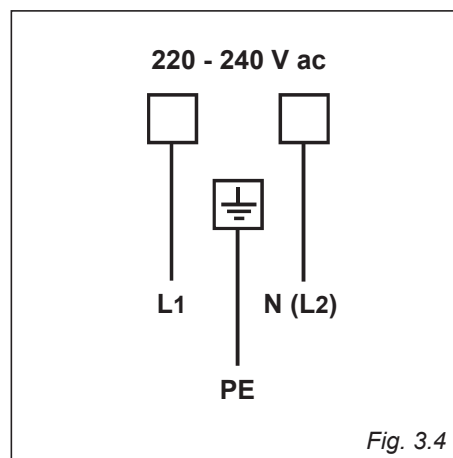

Fig. 3.4
- The new supply cable, of suitable type and section, is connected to the terminal board following the diagram of fig. 3.4.